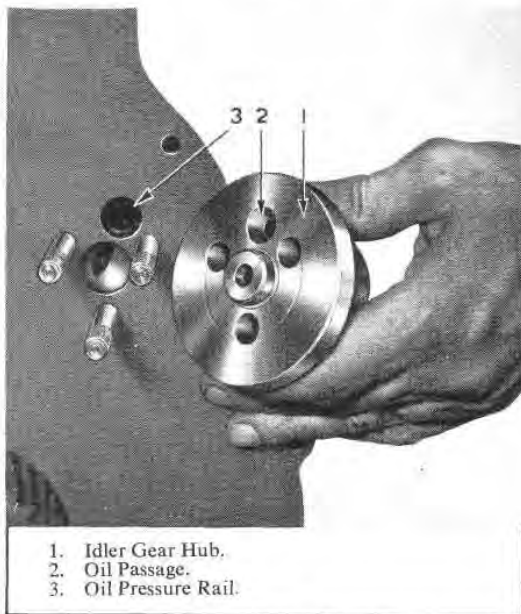

Fig. B38 — Idler Gear Hub Location
3. Remove the idler gear from the hub which can now be withdrawn from the timing case (Fig. B38).